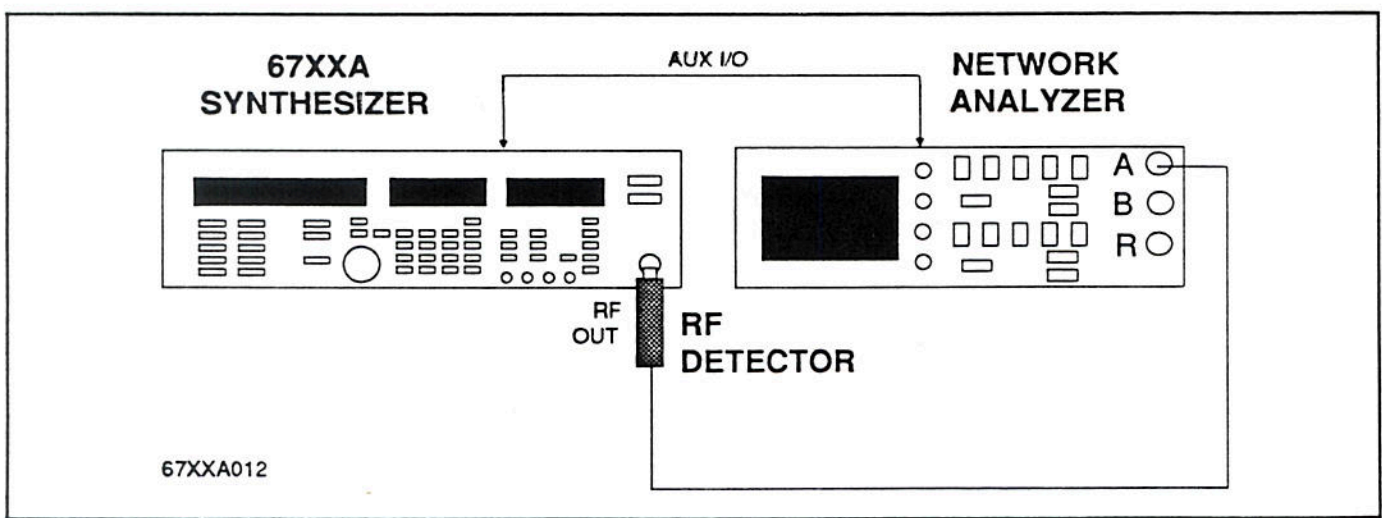

Figure 3-5. ALC Slope Adjustments Test Setup
a. Test Setup. Connect the equipment as shown in Figure 3-5 and turn the equipment on.